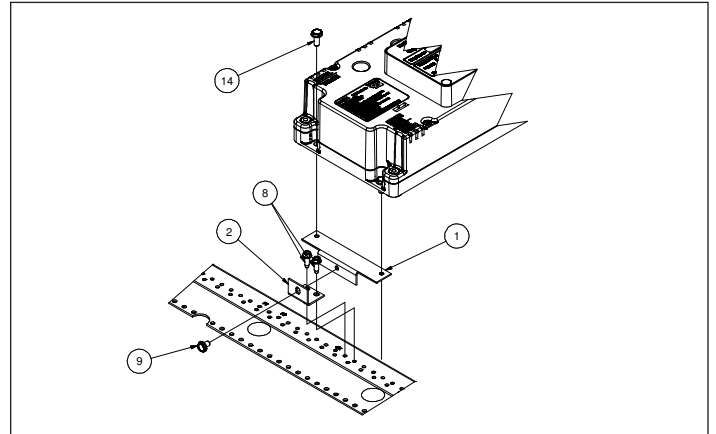
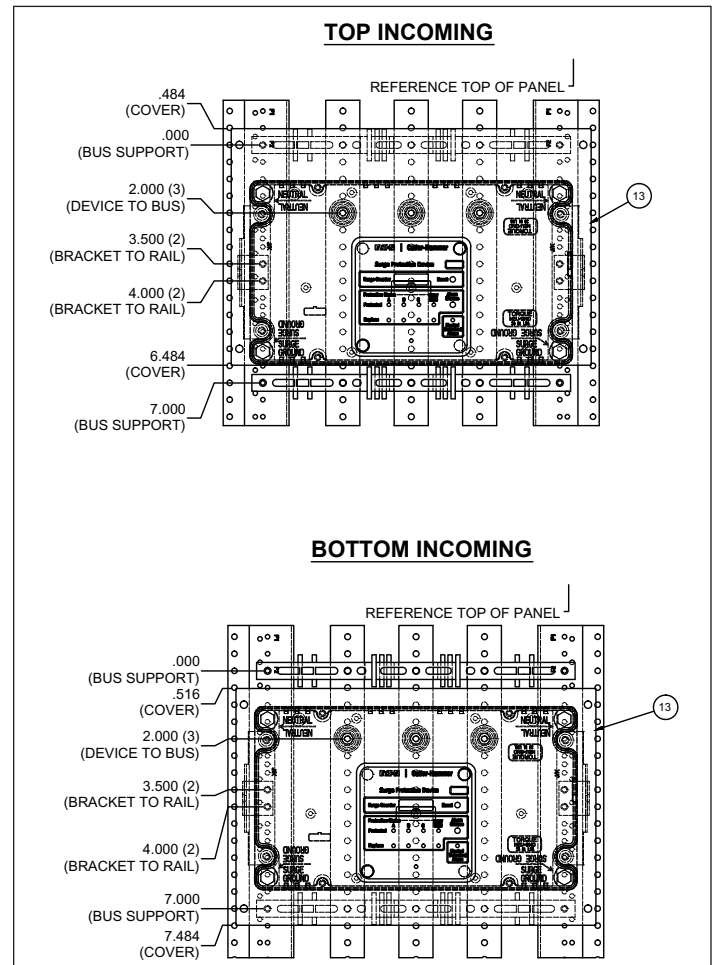
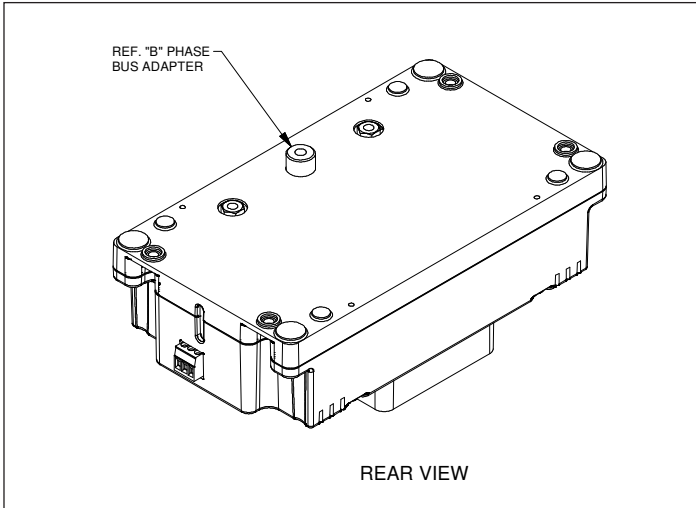
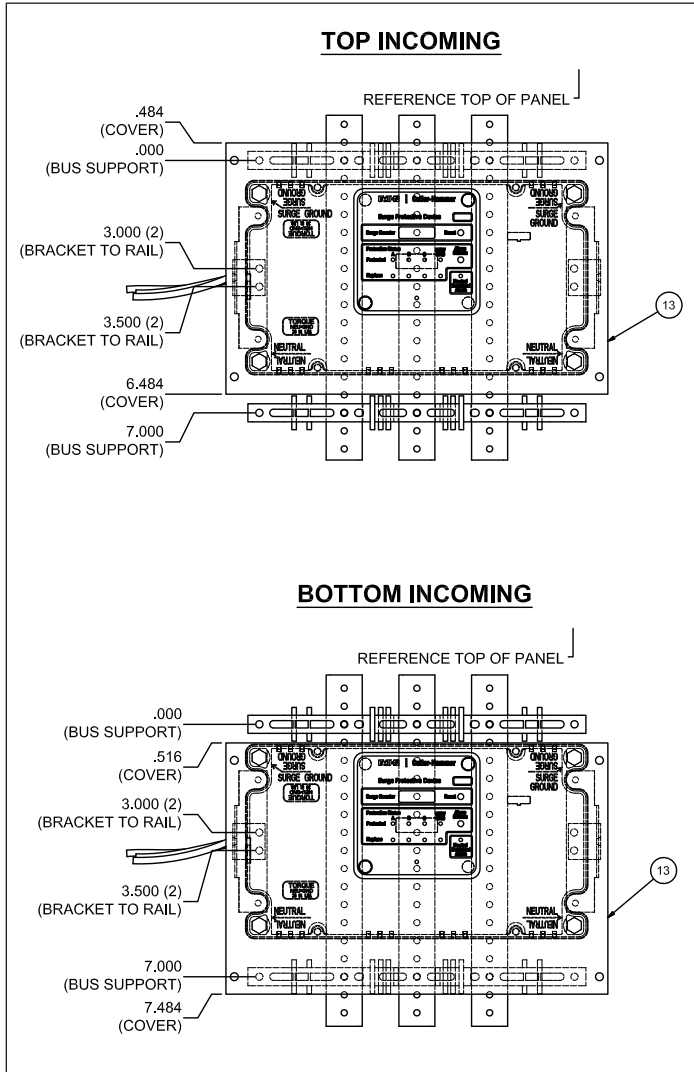

Figure 3. SPD Installation Reference Drawing.
Figure 4. SPD Direct Bus Mounted Dimensions.
Figure 5. B-Phase Bus Adapter.
Figure 7. SPD Interfaced Via Circuit Breaker Dimensions.
1. Refer to Figure 3 for orientation of the Item 2 bracket. Locate the Item 2 bracket per Figure 4 "bracket to rail" dimensions. Attach each Item 2 bracket using two pieces of Item 8 screw.
2. Connect the Item 1 bracket to each side of the SPD with two pieces of Item 14 screw. Refer to Figure 3 for the Item 1 bracket orientation.
3. For 3-phase applications, ensure that the B-phase bus adapter as shown in Figure 5 is present. Locate the SPD per Figure 4 "device to bus" dimensions ensuring that holes in the Item 2 bracket and the Item 1 bracket align. Start the Item 9 screws per Figure 3, but do not tighten them at this time.
- Refer to Figure 3 for orientation of the Item 2 bracket. Locate the Item 2 bracket per Figure 7 "bracket to rail" dimensions. Attach the Item 2 bracket using two pieces of the Item 8 screw.
- Connect the Item 1 bracket to each side of the SPD with two pieces of the Item 14 screw. Refer to Figure 3 for the Item 1 bracket orientation. Connect the Item 1 bracket to the Item 2 bracket using the Item 9 screw, one on each side.
12. Select and install the appropriate Item 13 dead front cover (two supplied) using four Item 9 screws. Reference Figure 4 (direct bus mounted applications) or Figure 7 (interfaced via a circuit breaker applications) for orientation and location of the dead front cover as needed.